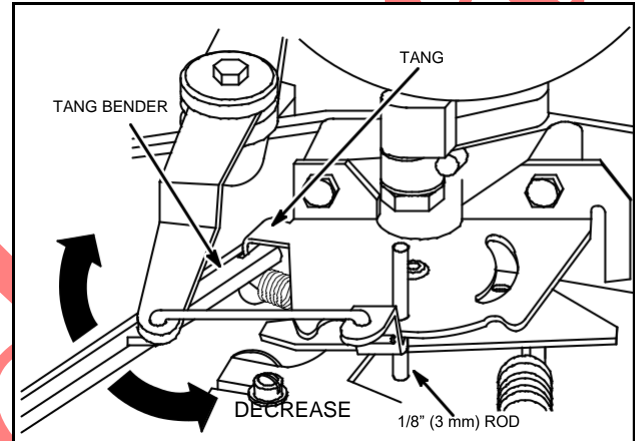

Fig. 34 – Adjust Governed Idle
1. Move remote throttle control lever until a 1/8" (3 mm) rod can be inserted through two (2) holes in governor control plate, Fig. 34.